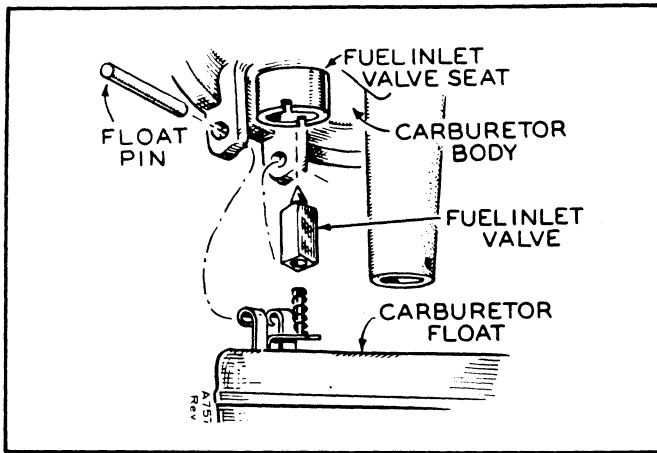

FIGURE 5. CARBURETOR DISASSEMBLY
6. Remove the float pin and float, Figure 5.